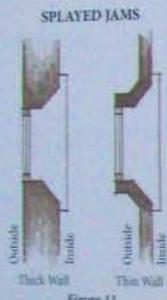

Figure 11
- Reduce contrast between the window frame and adjacent walls to lessen glare and improve vision; use light-colored window frames and casings, and spray the walls around windows when possible (see figure 11).